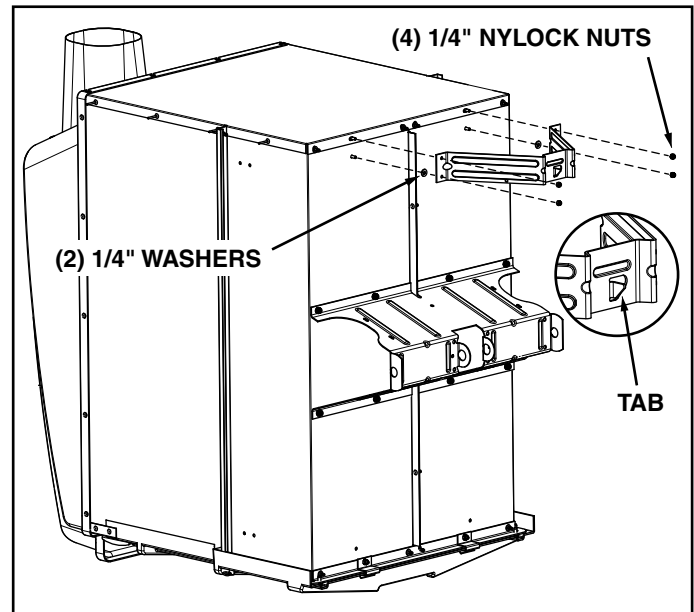

FIGURE 2
- 3. Attach the latch stand bracket (turned as shown) using four 1/4" nylock nuts and two 1/4" washers. Install the washers as shims underneath the latch stand bracket, on the two rear studs. See figure 2.